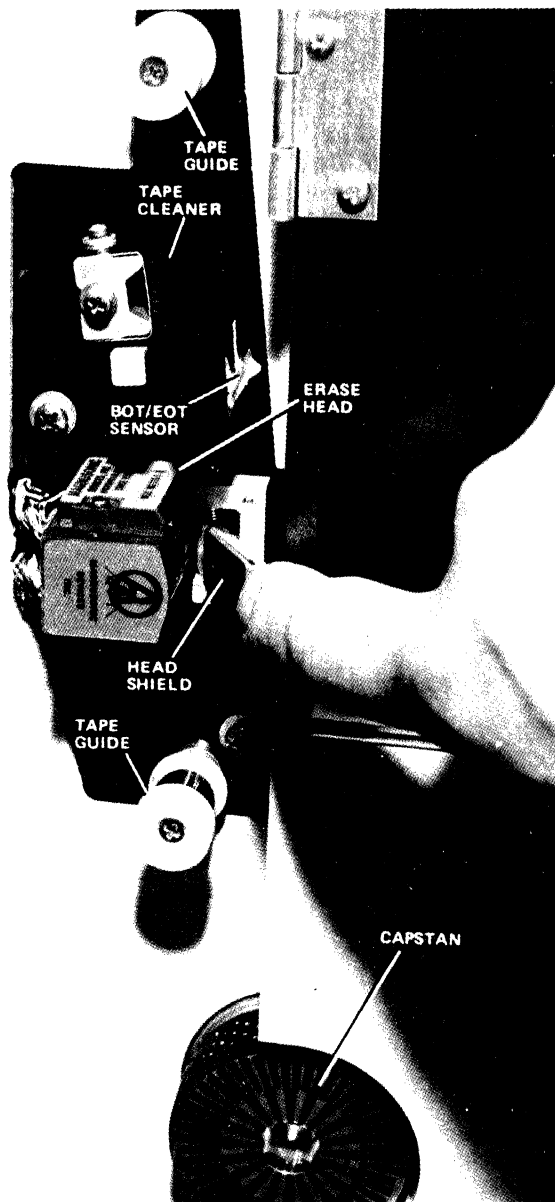

Figure 4-2. Tape Head Assembly
2. Remove both head covers (see Figure 4-2).
3. Use a lint-free cloth moistened with Honeywell Magnetic Tape Cleaner (Part No. 9704-2048-001) or equivalent solution (such as Freon "TF" solvent) and clean all exposed surfaces of the read/write, head, tape cleaner, erase head, and tape guides shown in Figure 4-2. Cotton swabs or a ½-inch acid-free brush